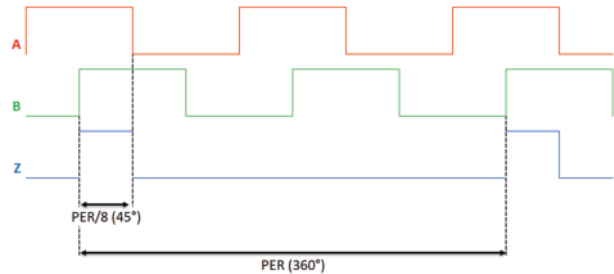

Figure 18: Calibration using incremental signals when rotating clockwise according to Figure 6
**Step 2:** Set  $CFGRES = 0x01$  (8 edges per 360° rotation). Adjust  $GCC$  so that the distance in between two adjacent edges of signal A and B is exactly  $PER/8$ . Please refer to Figure 18.